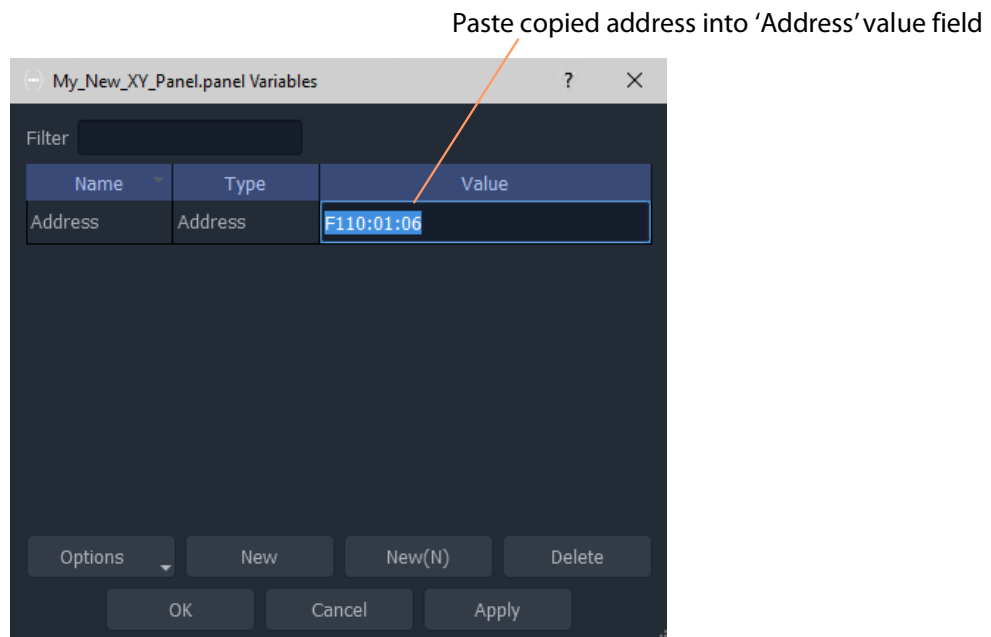

Fig. 6-18: Setting Routing Service RollCall Address for XY Panel
- 2 Go to the XY Panel and right-click on the XY Panel background and select 'Variables...'. The **Variables** dialog is shown. See Figure 6-18.
- 3 In the **Variables** dialog, paste in the copied RollCall address into the value of the 'Address' variable. See Figure 6-18. (Alternatively, simply enter the address manually.)